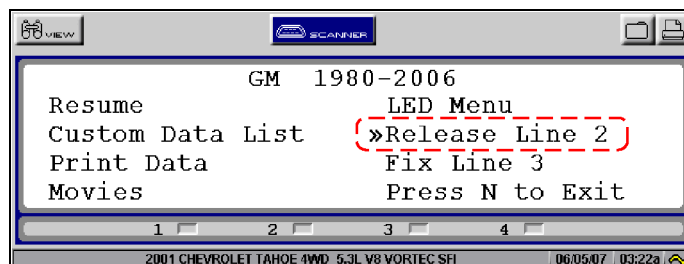

Figure 5-19 Sample Exit Menu with line 2 fixed
3. Select **Fix Line 2** to return to the Exit menu displays (Figure 5-19).
4. Press **N/X** again to open the Exit menu (Figure 5-19).